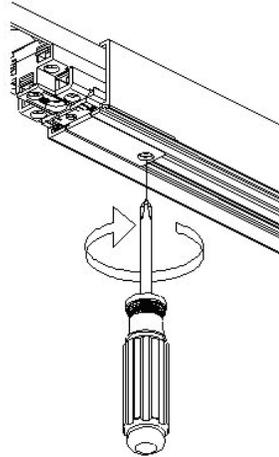

FIG 4A: LIVE END CONNECTOR TRACK ENGAGEMENT
1. Slide live end connector into track and secured screw (Fig 4a).